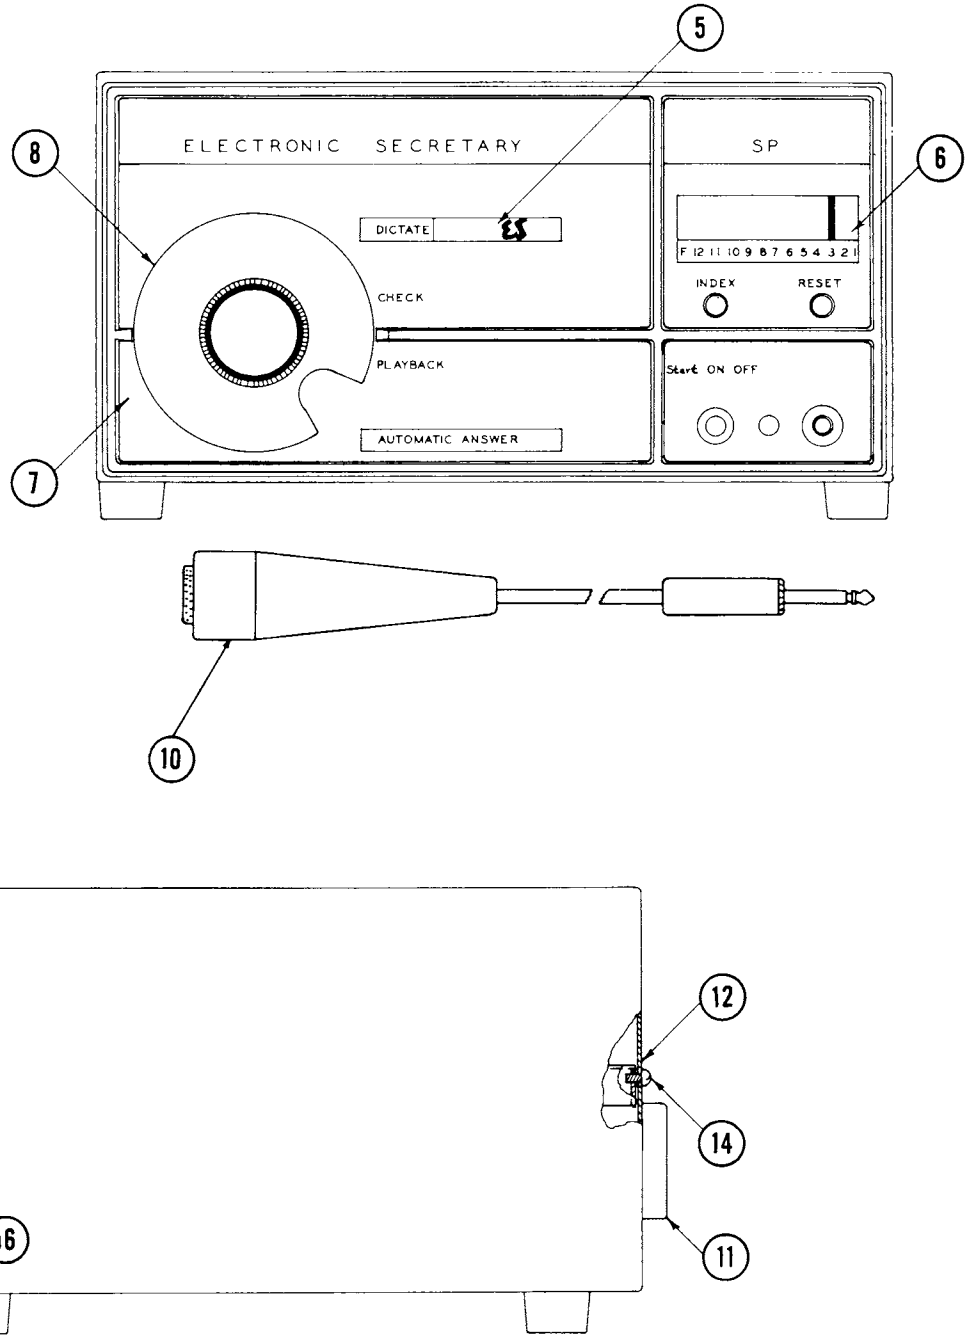

Figure 1. Final Assembly - Model SP-2, WW-762-15.
1.01 This Section contains the maintenance drawings of the Model SP-2. Each drawing shows how the items in its parts list fit together to form the assembly identified by the figure caption. Except for Figure 1, each caption consists of three parts: the assembly name, part number, and the figure reference to the next higher assembly.
2.01 The drawings are cross-referenced in the order of mechanical breakdown. Starting with the parts list in Figure 1, each item making up the final assembly is identified by part number and description or a figure reference which extends the dis-assembly.
(Part of Final Assembly, Figure 1).